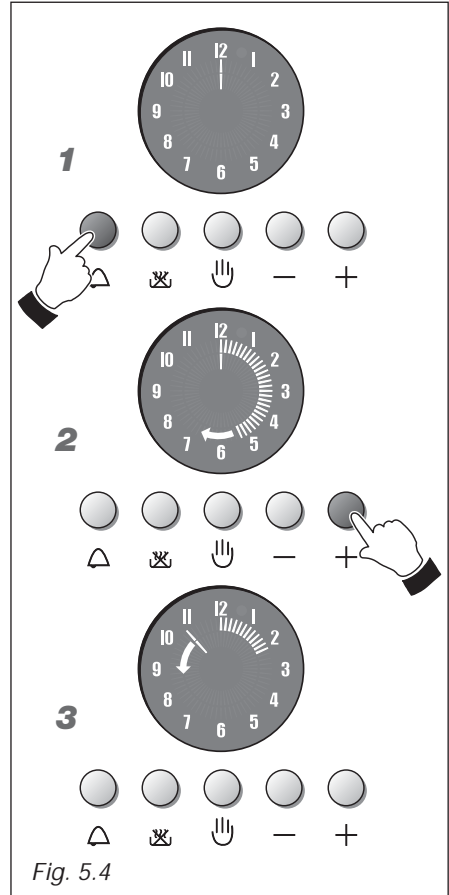

Fig. 5.4
## TIMER (fig. 5.4)
1. Fig. 5.4 - To set the timer program press  $\triangle$  button.
2. Fig. 5.4 - Press button  $\oplus$  within 7 seconds and set the required time. Outer luminous hands light up. Press button  $\ominus$  to decrease the time.
3. Fig. 5.4 - The countdown starts immediately and an anti-clockwise luminous hand lights up on the display. On each rotation (1 minute) of this hand one outer luminous hand goes out.